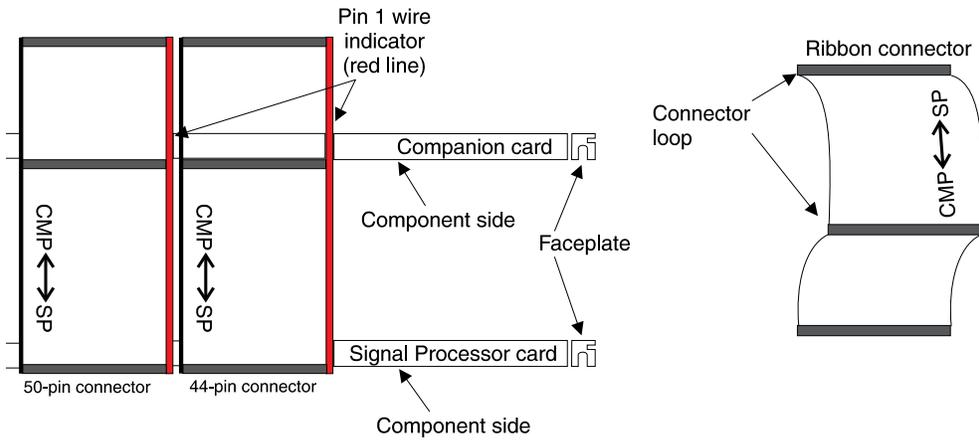
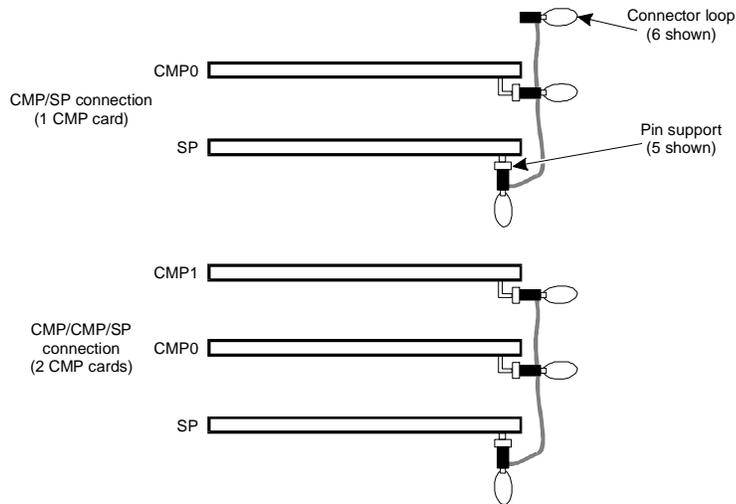

Figure 7-12. Top View of the Signal Processor/Companion Bus Cables
Figure 7-13. End View of Signal Processor/Companion Bus Cables
- The ribbon cables that connect the SP and CMP cards are polarized. Figure 7-12 and Figure 7-13 show how they are oriented with respect to the SP and CMP cards.
5. Push with uniform force across the width of the loop to install the connector. One ribbon is a 50-pin conductor cable. The other is a 44-conductor cable. See Figure 7-12 and Figure 7-13 for the proper cable and card configuration.